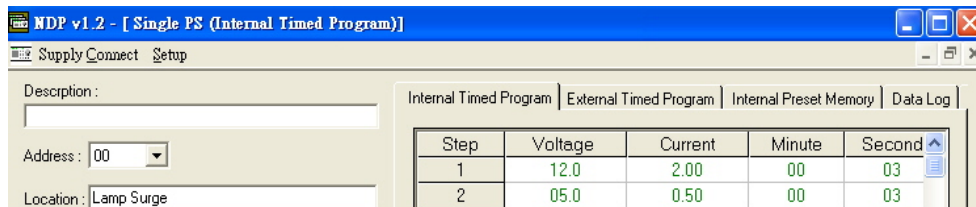

Figure 6.4.1b
7. An "Internal Timed Program" window as shown in Figure 6.4.1b will appear.